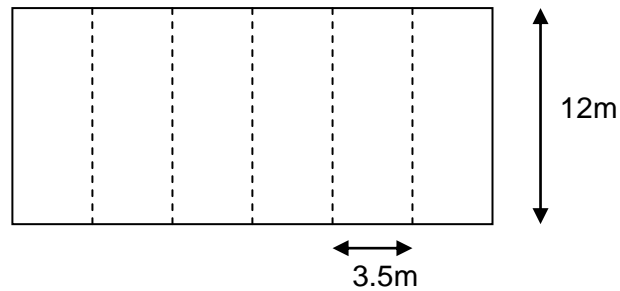

Figure.1
1. Design a simply supported composite beam of span 10m as shown in the figure.1. The thickness of slab is 125mm. The floor is to carry an imposed load of 2.0kN/m^2 , partition load of 1.0kN/m^2 and a floor finish of 0.5kN/m^2 . Assume the grade of concrete as M30, yield stress of structural steel is 280N/mm^2 and density of concrete is 25kN/m^3 . Use partial safety factor for both live load as 1.5 and dead load as 1.4. Check the deflection serviceability condition alone.